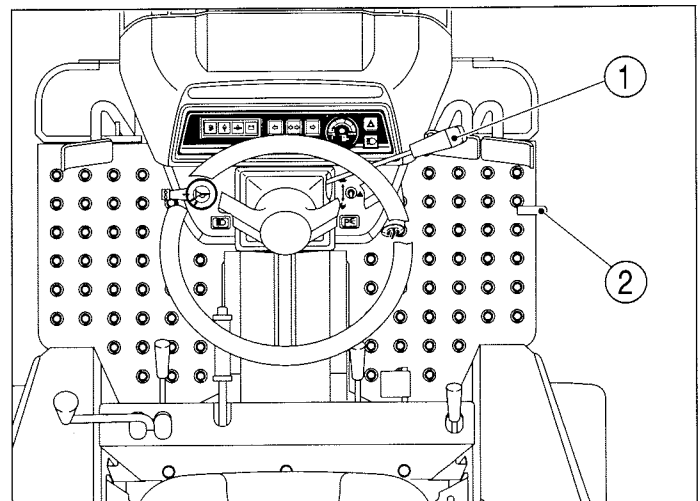

FIG. 23
FIG. 23: **Throttle lever (1)** - Controls engine speed and will remain in position selected by the operator. With hand lever forward (👉), engine will idle. Engine speed increases as lever is pulled progressively rearward (👈).